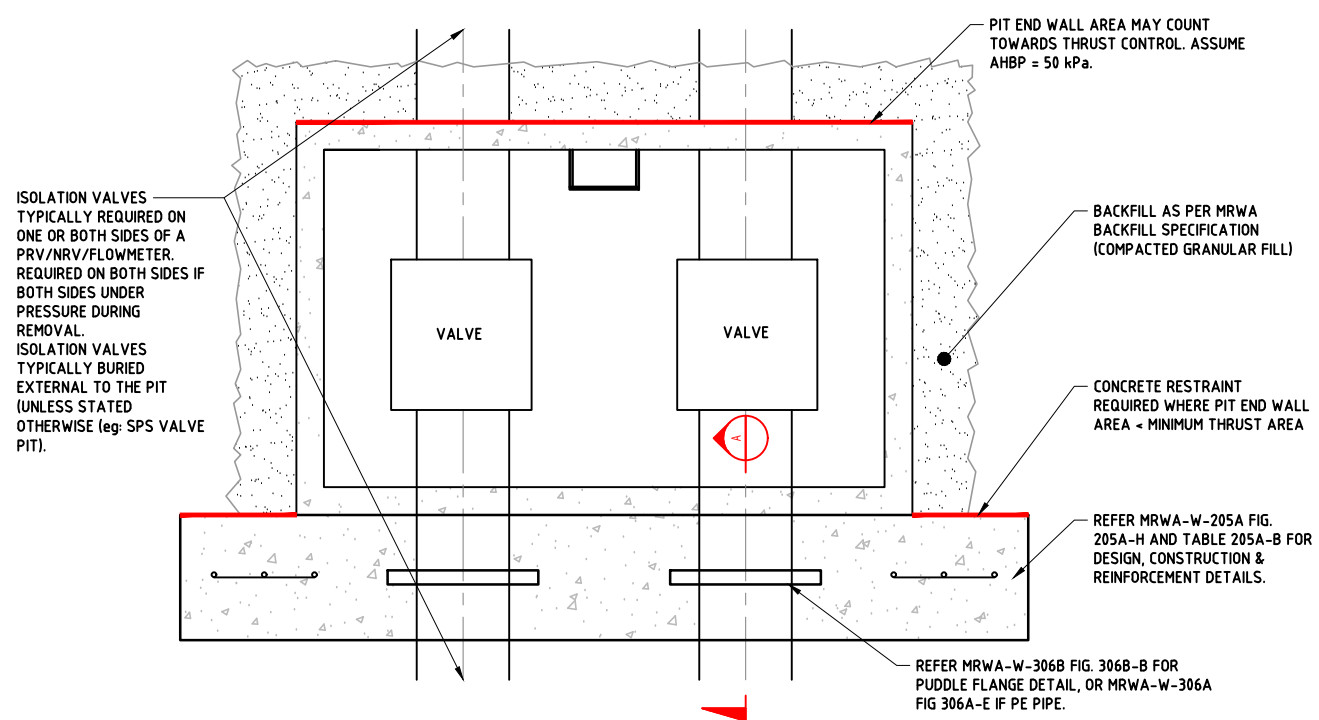

FIGURE 1: PIT PLAN
- A. SHEET 5 FIGURES 1, 2 AND 4 ARE BASED ON FULL WIDTH COVER SYSTEMS.